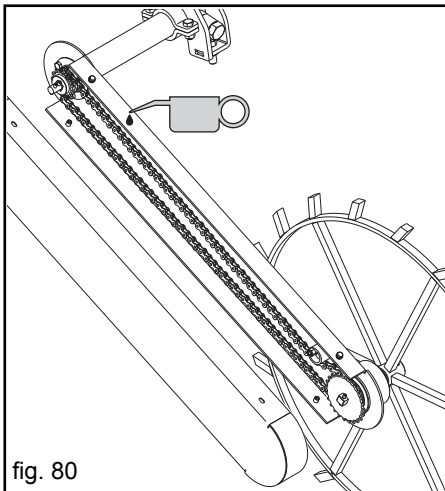
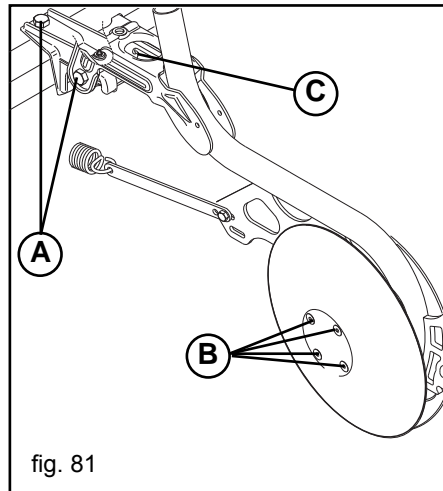
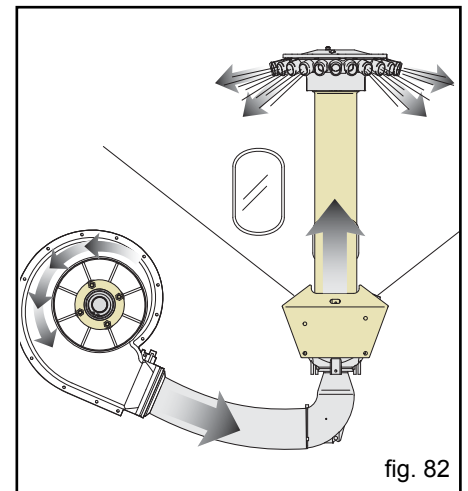
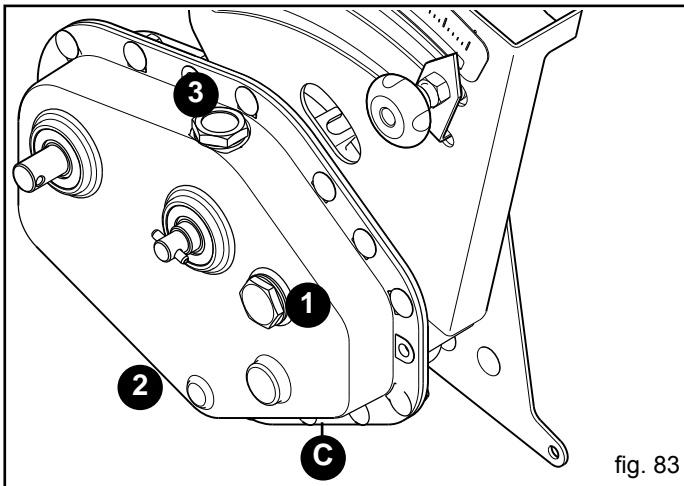

fig. 80
fig. 81
fig. 82
fig. 83
WHEN THE MACHINE IS NEW	<ul style="list-style-type: none"> - Lubricate all the transmission chains with mineral oil (SAE 80W/90) (Fig. 80). - Grease all parts indicated by transfer nr. 14 ('GRASE') at page 52 of this leaflet. - After the first hours of work check that all the bolts are still tight. - Check the tightness of the bolts on the listers (A-B, Fig. 81). - Grease all the coulter elements (C, Fig. 81).
AT THE BEGINNING OF THE SEEDING SEASON	<ul style="list-style-type: none"> - Lubricate all the transmission chains with mineral oil (SAE 80W/90) (Fig. 80). - Before every new season, change the gearbox oil with SAE 10W (2 Kg) as follows: oil drainage plug, 2 Fig. 83; oil filling plug, 3 Fig. 83. - Make sure that the transmission rotates freely without any interferences. - Operate the empty seeding machine, the air-flow frees the pipes from condensation and removes eventual impurities (Fig. 82). - Grease all the coulter elements (C, Fig. 81).
EVERY 20/30 WORKING HOURS	<ul style="list-style-type: none"> - Check the tightness of the bolts on the listers (A-B, Fig. 81). - Clean and lubricate the transmission chains (Fig. 80), the gears and the chain tensioner. - Check the fan-belt tension (Fig. 84). Press on the middle part of the belt between the two pulleys with a 5 Kg force. Each belt should give max. 1 cm (Fig. 84). Replace the belts if they present signs of wear or aging. Always replace the belts in pairs with genuine spare belts. Replace the transmission belts every 400 hectares tilled!
EVERY 50 WORKING HOURS	<ul style="list-style-type: none"> - Grease all the coulter elements (C, Fig. 81). - Clean the distributor carefully and thoroughly (see cap 3.5.1). - Thoroughly clean the entire distribution head (Fig. 85) as follows: <ul style="list-style-type: none"> • loosen and remove the wing nuts (A); • remove the cover on the distributor (B); • clean metal parts with a brush and plastic parts with a cloth; • put the cover back in place and close it with the wing nuts. - Make sure the toothed wheels are properly aligned and the transmission chains are tensioned to prevent them from wearing out in little time or a failure affecting the transmission parts.
<p>EVERY 50 WORKING HOURS</p>	<ul style="list-style-type: none"> - Grease the row marker arm pin (Fig. 86). - Clean the blower clutch with a jet of air (Fig. 87). - Grease the bevel gear pair of the Cardan shaft (Fig. 88). - Check the oil level in the gearbox and top up to level (1, Fig. 83) whenever necessary using the same type of oil (SAE 10W) whenever possible. <p>ATTENTION!!! While the gearbox is being adjusted or serviced, the screw must not be touched for any reason (C, Fig. 83): this would alter the setting of the gearbox with an adverse effect on distribution.</p>